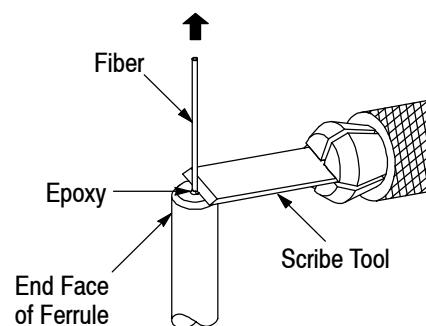

Figure 15
1. *Using Sapphire Scribe Tool 504064-1 or similar scribe tool, gently brush the tool blade across the fiber at a 3 to 5° angle (about the diameter of one fiber from the ferrule surface). See Figure 15. Do not apply force on the fiber with the blade while scribing since excessive force may fracture the fiber making the connector useless.*